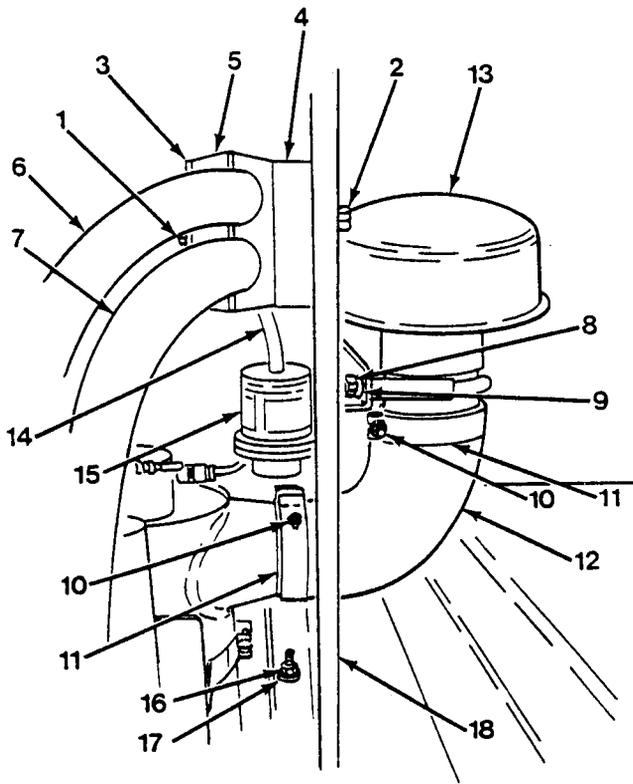

Figure 18-1
13. Install hood support (18), six washers (17) and nuts (16, Figure 18-1) on frame.
14. Connect restriction indicator hose (14) to restriction indicator (15). Install stack cap (13), 90-degree elbow (12) and T-clamps (11). Tighten nuts (10). Install two lock-washers (9) and nuts (8). Install two clamps (5), spacer (4), plate (3), capscrew (2) and nut (1) on hoses (6) and (7).